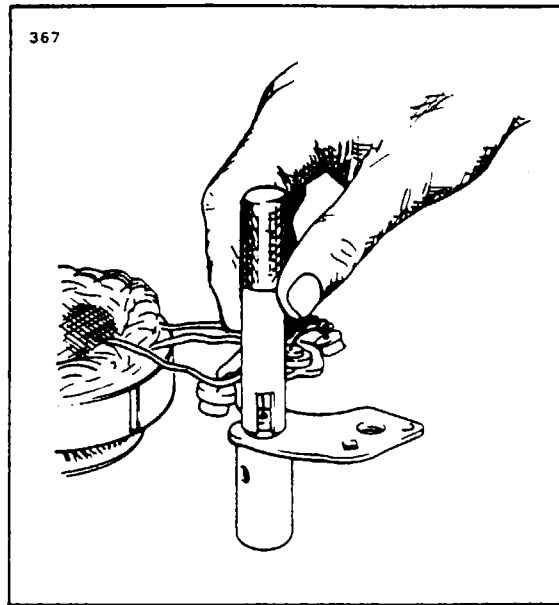

Figure 10-24i. Installation of Rectifier
b. Carefully install the rectifiers in the slip ring end head or rectifier mounting plate by supporting the unit and using the special tools illustrated in Figure 10-24i.
a. Wiring connections for bench testing the alternator are shown in Figure 10-24i. Refer to the individual specification pages for output test figures. Adjust the carbon pile if necessary, to obtain the specified voltage.